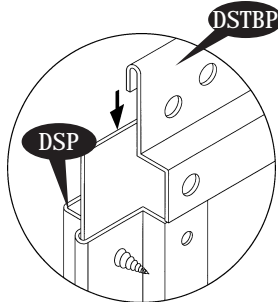

Fig.1
3. Assemble the Door panel strip top (DSTBP) with Door panel. Make sure the Door panel top edge to be inserted into the (DSTBP). See fig. 1.